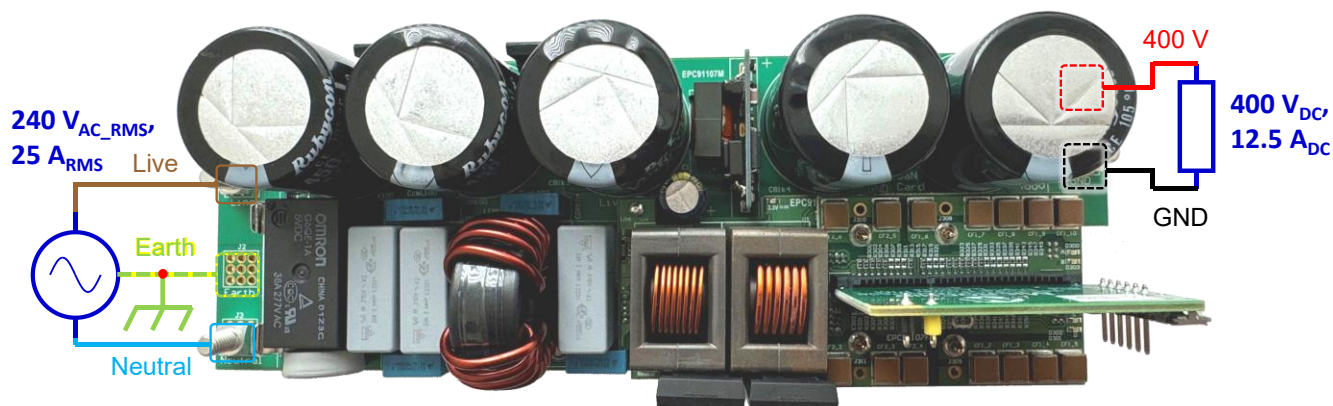

Figure 18: Power connections to the EPC91107KIT.
Connecting power to the EPC91107KIT is very simple and shown in Figure 18. It is important to use a programmable power supply for the AC source until such time EPC releases a version of the controller code tested on “dirty” grids. In addition, the AC source should be selected with sufficient power rating to power the EPC91107KIT.
- 1) Connect the power supply (in the off position) and load as shown in Figure18.